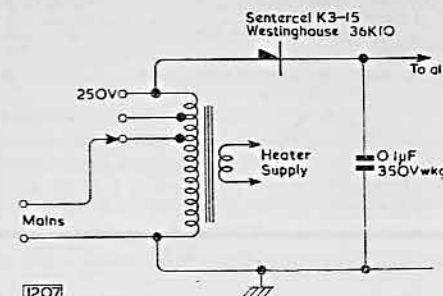

Fig. 2—Method of obtaining the first anode potential by rectifying the mains input voltage.
2. From a small additional rectifier connected to the highest tapping on the primary of the mains transformer. This arrangement shown in Figure 2 provides a little over 300V.